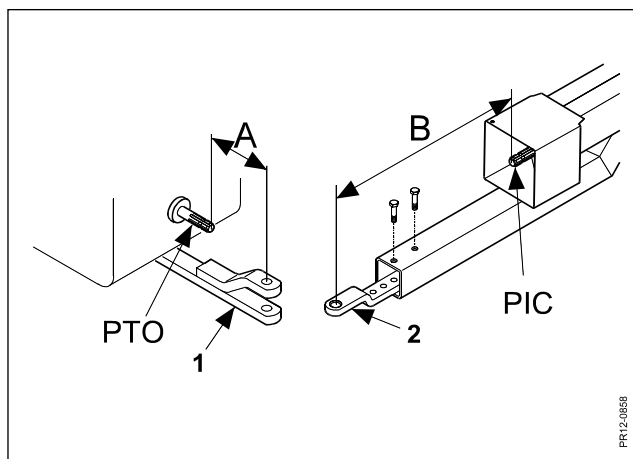

Fig. 2-10
Fig. 2-10 Adjust the drawbar (1) of the tractor so the distance "A" is as short as possible. Adjust the drawbar (2) of the machine so the distance "B" is as long as possible. In this way the wide angle absorbs most of the deviation when turning. The drawbar (2) of the machine must be placed so that the PTO shaft is as close to horizontal as possible.